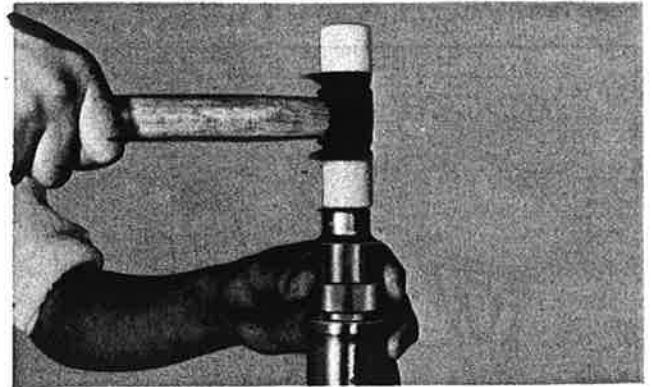

Fig. 5-6-8
B. Insert new seal "open" side down using large socket and soft hammer (Fig 5-6-8)